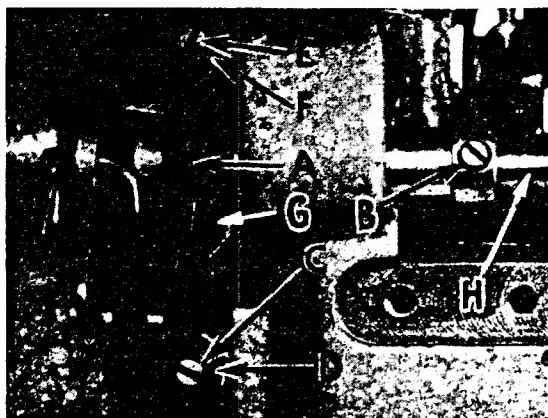

Fig. 14
Assemble the presser foot to presser arm. With needle in high position, swing presser arm into sewing position and set the presser foot to align needle holes (front and back) and flat on throat plate. The front edge of needle hole in presser foot must be aligned with front edge of needle hole in throat plate. It is also important that the bottom of the presser foot be flat on the throat plate. If necessary, presser foot can be realigned with throat plate slots by shifting the foot lifter lever shaft (H, Fig. 14). To move the shaft, loosen collar screws (B, Fig. 14) and clamp screw (G) and then shift the foot lifter lever shaft to the left or right as required. Re-
The foot lifter lever arm (A, Fig. 14) and the collar (B) secure the shaft. Be sure the presser arm does not bind and rise when presser foot release bushing is unlocked.